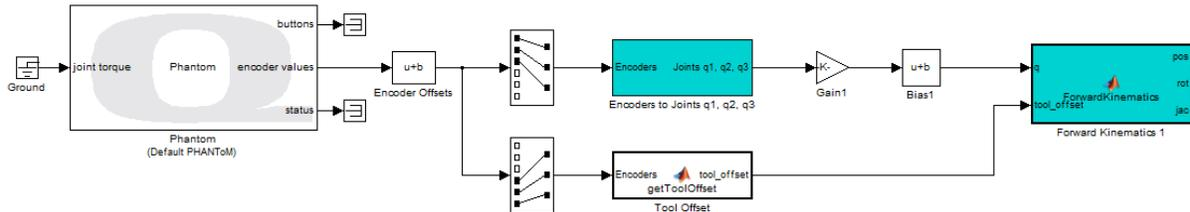

Figure 8.4: Model to calculate the jacobian.
2. Delete the display on the output *jac* and reconnect the **Bias** block to the input *q* of the **Forward kinematics** block. Your model should resemble Figure 8.4.